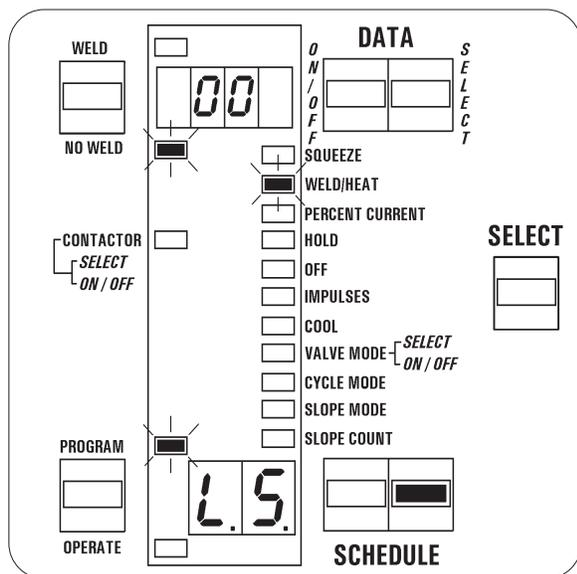

Figure 7-4. Program LAST STEP
3. Press the SCHEDULE push buttons to find **L.5** in the SCHEDULE display, as shown in Figure 7-4.
4. Program the desired LAST STEP for this stepper; e.g., for stepper **0**, LAST STEP in STEPPER mode **01** may be any number from **00** to **09** (Figure 7-4), but in STEPPER mode **02**, it may be any schedule number from **00** to **99**. In fact, this value will be first step at beginning of the weld sequence. This value will be reset or reprogrammed after resetting the stepper.